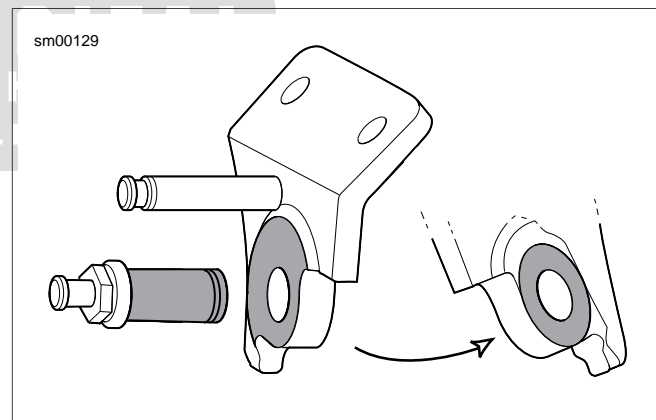

Figure 2-180. Sidestand Assembly Lubrication (Shaded Areas) (Typical)
- Lubricate sidestand pivot pin and mating portions on sidestand bracket with WHEEL BEARING GREASE (Part No. 99855-89) as shown in Figure 2-180.